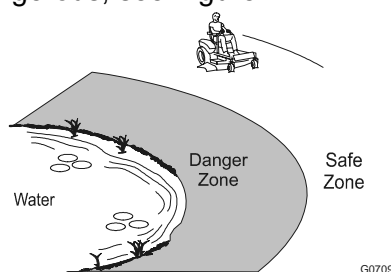

FIGURE 1
- 1.6.3 Use a walk behind mower and/or a hand trimmer near drop-offs, ditches, steep banks or water. This area can be dangerous, see Figure 1.